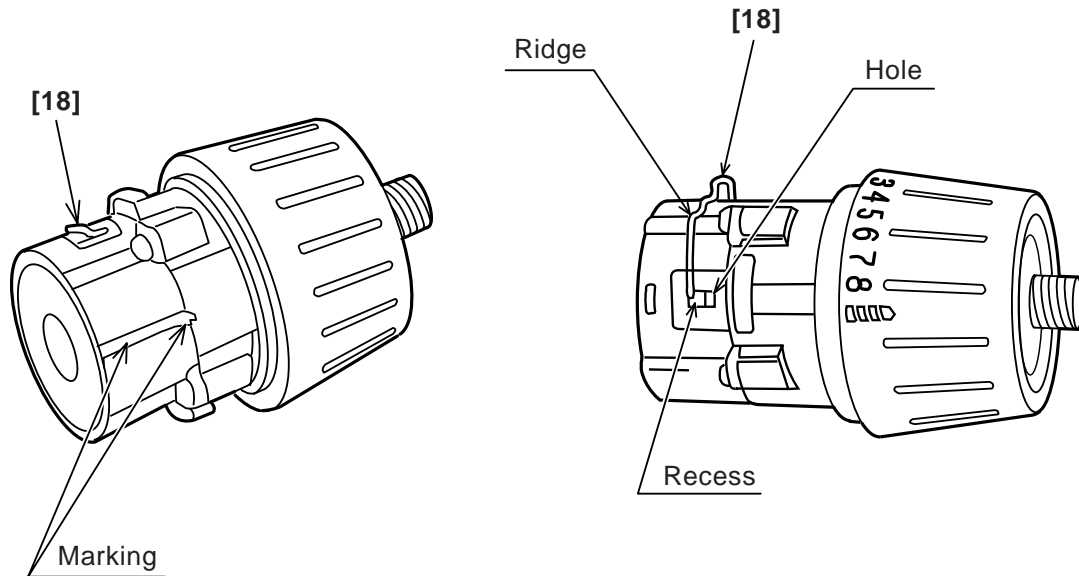

Fig. 8
- (ii) Install the Front Case [11] and the Rear Case [17] together with the marking on the Front Case [11] aligned with the marking on the Rear Case [17]. (See Fig. 8.)
- (c) Install the Shift Arm [18] into the assembly reassembled in step (3) (b).
- (i) With the ridge at the Shift Arm [18] set on the Motor [27] side, first install them on the unmarked side of the assembly reassembled in step (3) (b). Then insert the projection on the Shift Arm [18] into the hole in the Rear Case [17] and make sure that the projection is fitted into the recess in the Slide Ring Gear [19] mounted within the Rear Case [17]. (See Fig. 8.)